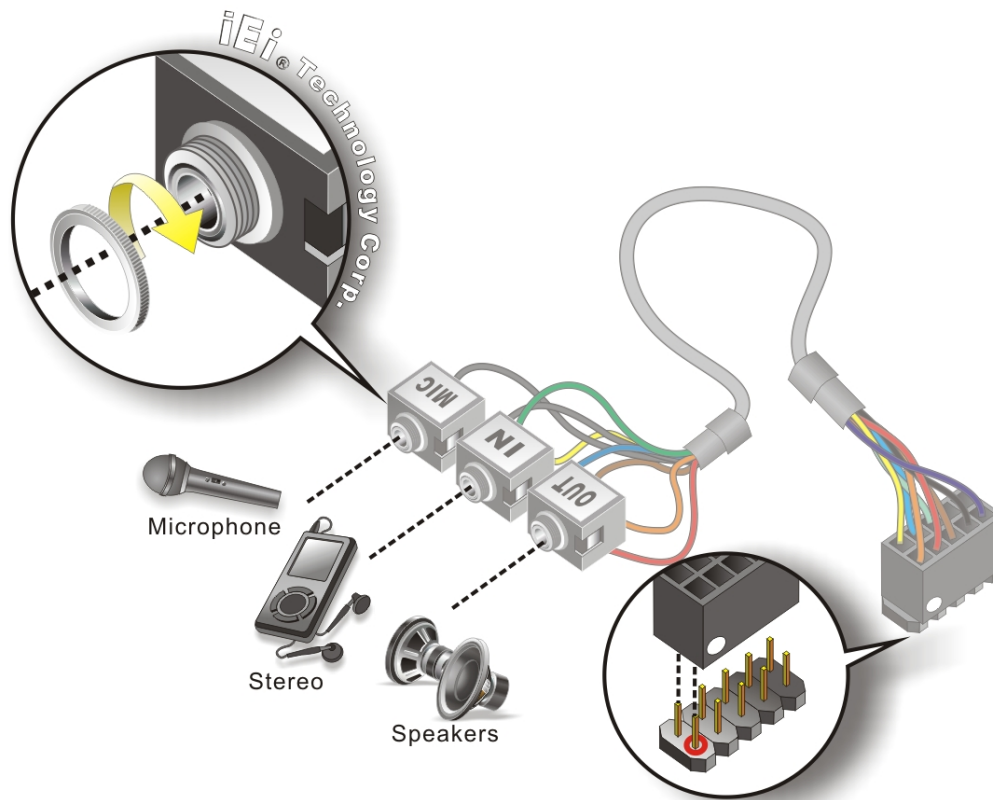

Figure 4-13: Audio Cable Connection
Step 5: Align pin 1. Align pin 1 on the on-board connector with pin 1 on the audio kit connector. Pin 1 on the audio cable connector is indicated with a white dot. See Figure 4-13.